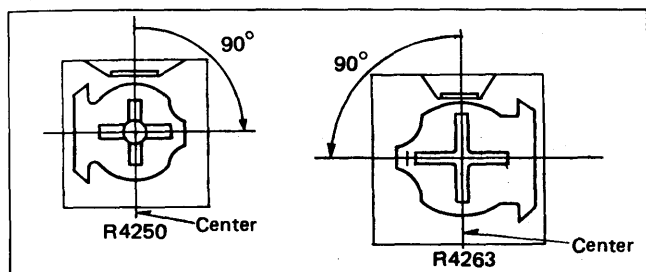

Fig. 42
- 3) Adjust R-Y Gain (R4250) and B-Y (R4263) controls as shown in Fig. 42.